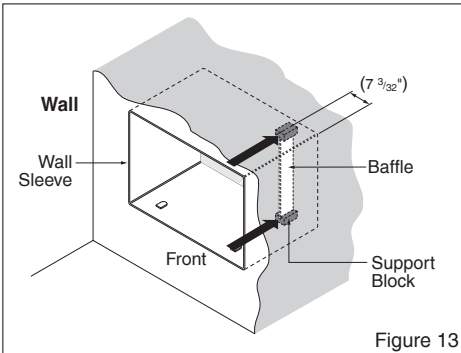

Figure 13
- 6** Remove the backing from the support blocks and attach them to the inside of the wall sleeve as shown in Figure 13. Slide the baffle into slots of the support blocks.